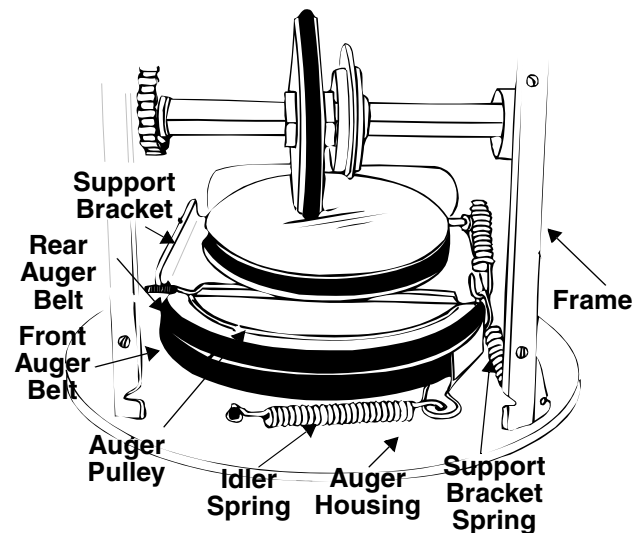

Figure 24
6. Unhook the idler spring from the hex bolt on the auger housing. See Figure 24.
8. Lift the rear auger belt from the auger pulley, and slip belt between the support bracket and the auger pulley. See Figure 24. Repeat this step for the front auger belt.